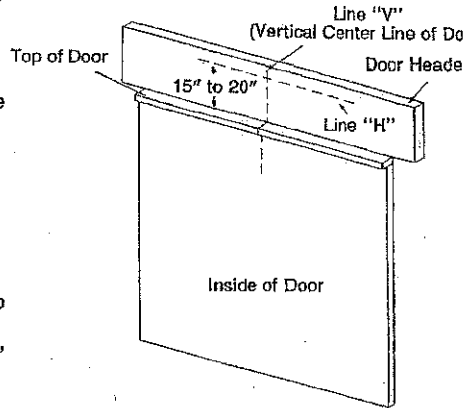

Fig. 11 Establishing Center Line
1. Establish centerline of door and header (Fig. 11).
2. Establish header bracket position (Fig. 11).